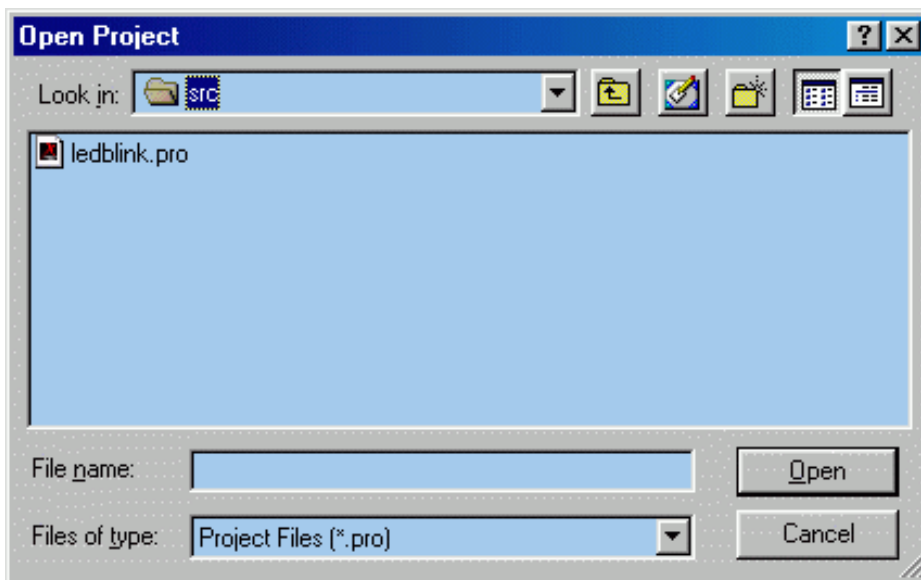

Figure 5. src Folder
6. Select the Z8F64xx_ledBlink folder and then the src folder to access the project file containing ledBlink.pro. (Figure 5).